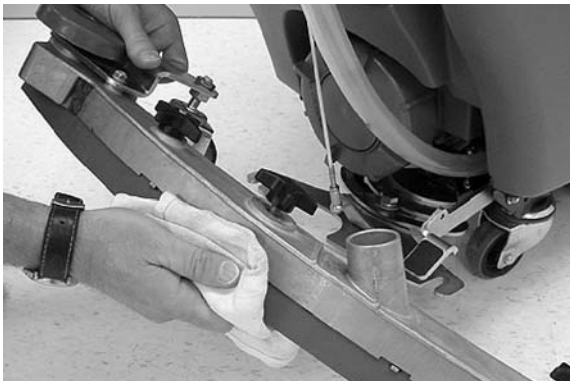

FIG. 41
- Wipe the squeegee blades clean (Figure 41). Store the squeegee assembly in the raised position to prevent blade damage.